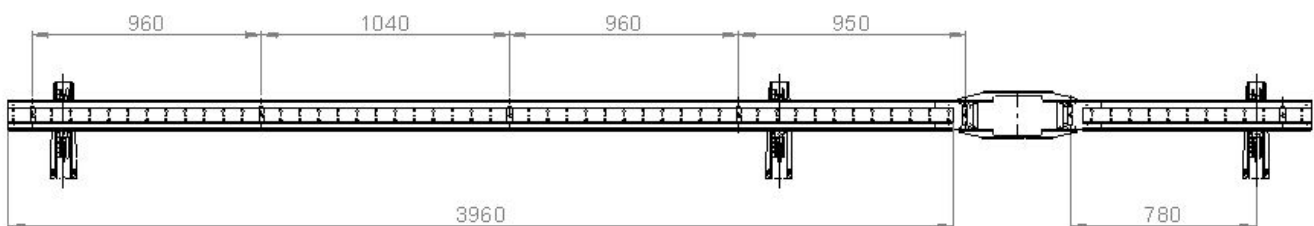

Fig. 52: Distances between hanger clamps 0831 in ProShell 128 Support Profile System
The hanger clamps must be hung in the ProShell Support Profile System before the Conductor Rail System 0813 can be installed in the ProShell Support Profile System (see Section 5.2.1). In addition, the fastening frame (3) for the line feed (1 or 5) must be installed. Either the line feed (5) (see Section 5.2.2) or the line feed (1) (see Section 5.2.3) is installed on this fastening frame using the anchor point in the ProShell support profile (see Fig. 52). A strain relief (2) is installed on the rear side of the fastening frame (3) for the line feed (1) in order to be able to lay the connecting cables without tensile force.
1. Install the line feed without terminal box on the right and left anchor points of the fastening frame (see Fig. 52).